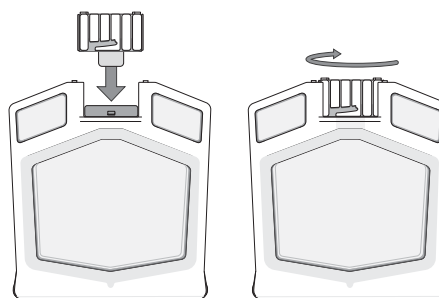

Figure 5 Lock the cap.
4. Insert cap and lock by gently twisting it clockwise until the arrows align and a firm stop is felt (Figure 5).